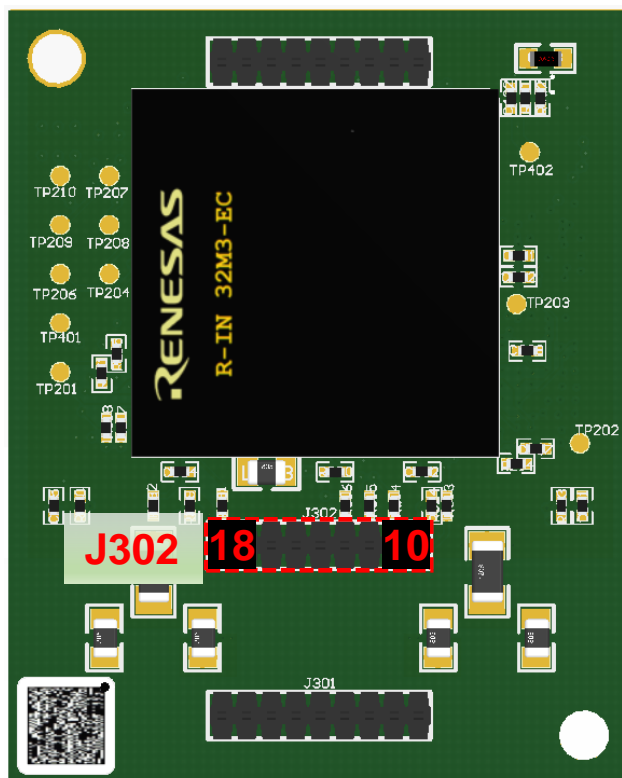

Figure 3: Bottom view CAN 9 pin connector J302
With further development of Intelligent RJ45 Module, the SoM_iRJ45 supports additionally two CANopen ports. Both ports just offer the transceiver (TX) and receiver (RX) signals per port. For complete CAN connection, additional components are required. Following Figure 3 give an overview about the connection pins of J302. Subsequently all 9 pins will be described and a sample schematic for a complete CAN wiring represented.